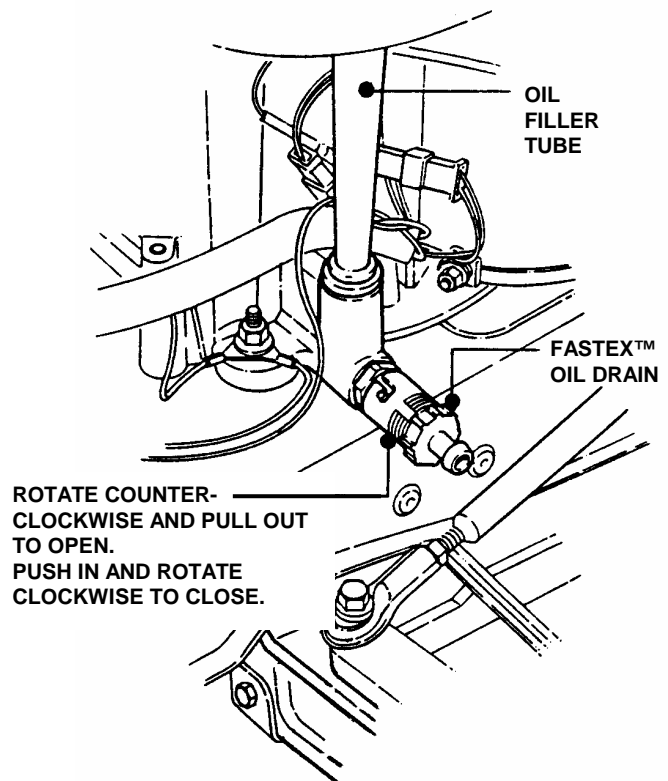

FIGURE 3.1
1. Rotate drain body counterclockwise and pull out to open. See Figure 3.1.